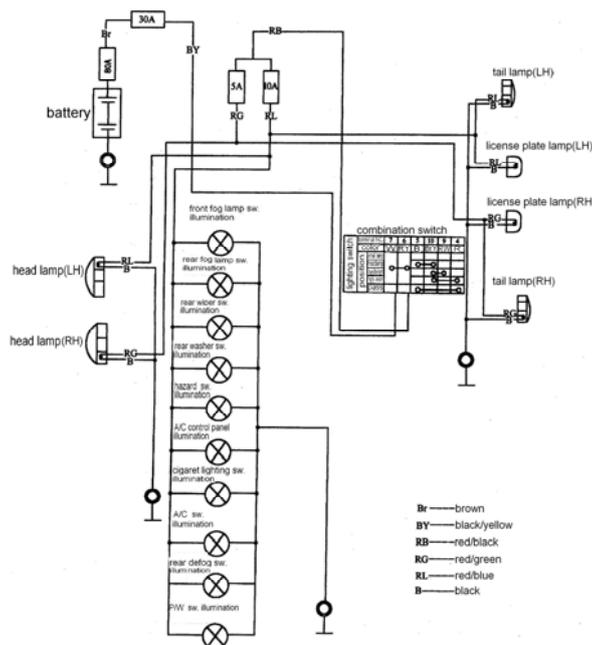

Fig 17-33
1) Circuit diagram sees fig.17-33